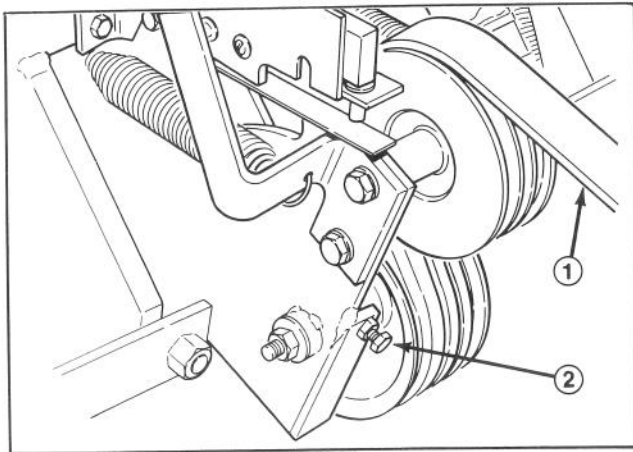

Figure 41
- 2. Latches (3)
3. If coring head drive belt (Fig. 41) does not properly engage or disengage when entering or exiting the ground, check belt adjustment. Coring head mechanism should begin rotating 1" before tines contact turf.
- C. Loosen adjusting screw jam nut (Fig. 41) on top of idle pulley bracket.
- D. With engine running at idle speed, rotate adjusting screw (Fig. 41) until coring head just barely starts to creep or stops. Then tighten adjusting screw one more turn. Tighten jam nut.